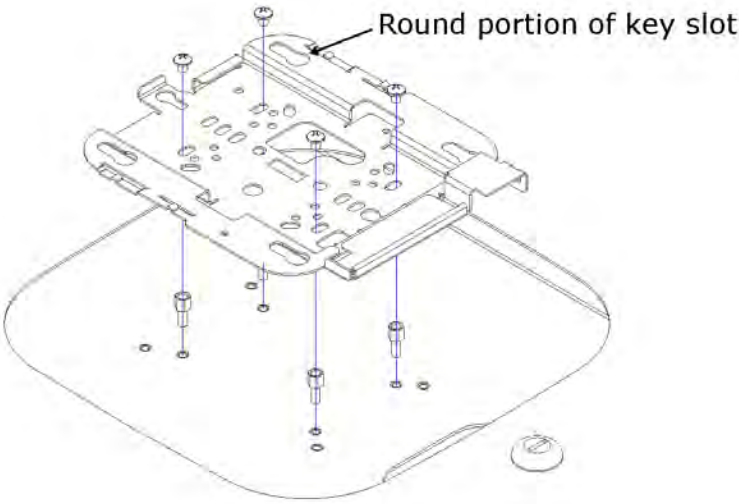

Figure 1 – Close-up showing proper orientation of the Cisco Bracket 2, refer to note for using standoffs
Step 2 – Turn the AP mount over so that the access point opening is facing upward. Install the Cisco mounting plate using four (4) #8-32 pan head screws. The mounting plate should be placed so that the round portions of the key slots are located closest to the enclosure lock (reference *Figure 1*). The Cisco "BRACKET 2" should be used with all Cisco 1400, 1600, 2600, 3500, 3600 and 3700 Access Points.